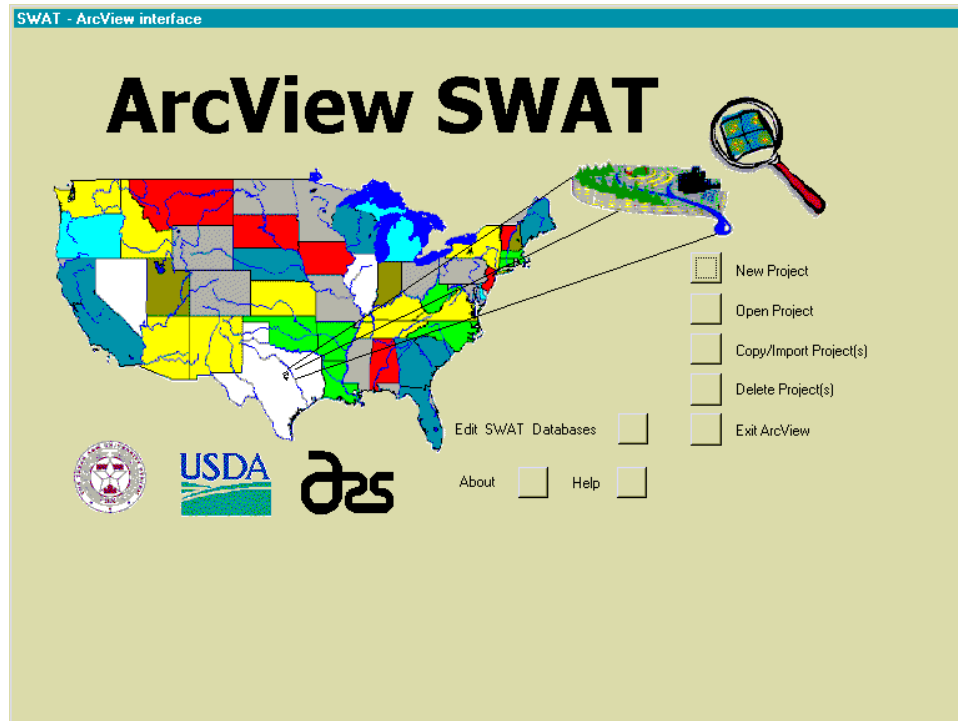

Figure 15.2
4. The main interface will be displayed (Figure 15.2).